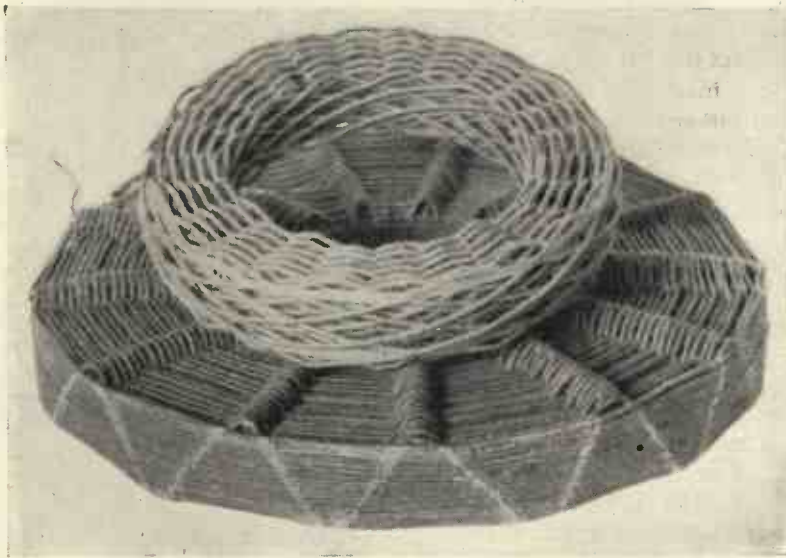
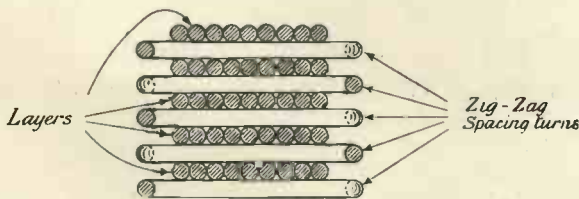

Fig. 1. Specimens of duo-lateral and lattice coils. Note the track of the zigzag spacing turn in the lattice coil.
Fig. 2. Section of lattice winding.
**T**AKING into account its efficiency and its ease of winding, the "lattice" coil is perhaps the most suitable multi-layer for general amateur use. Its construction is very simple, for it is merely a layer-by-layer winding, the layers of which contain a small number of turns, and are separated by a special zigzag spacing turn, the coil being in the form of a disc of diameter up to 5 in., and thickness up to 1 in. (Fig. 1). A section of a portion of a lattice winding is given in Fig. 2.